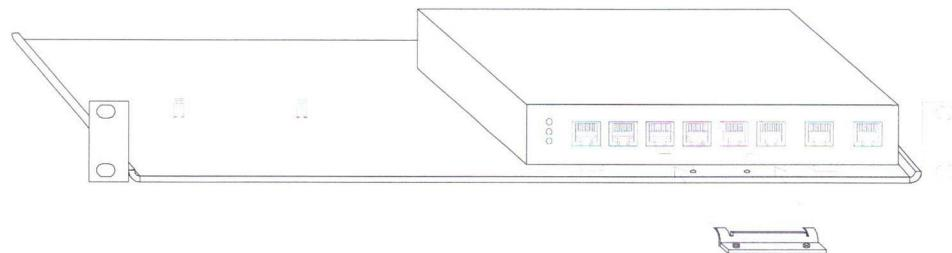

Figure 2-13: Inserting rackmount bracket into Digital Junction Box
4. Insert the two slats on the rackmount bracket into the two rectangular holes on the Digital Junction Box front panel. See Figure 2-13, below, for an illustration of how to insert the bracket into the Digital Junction Box.